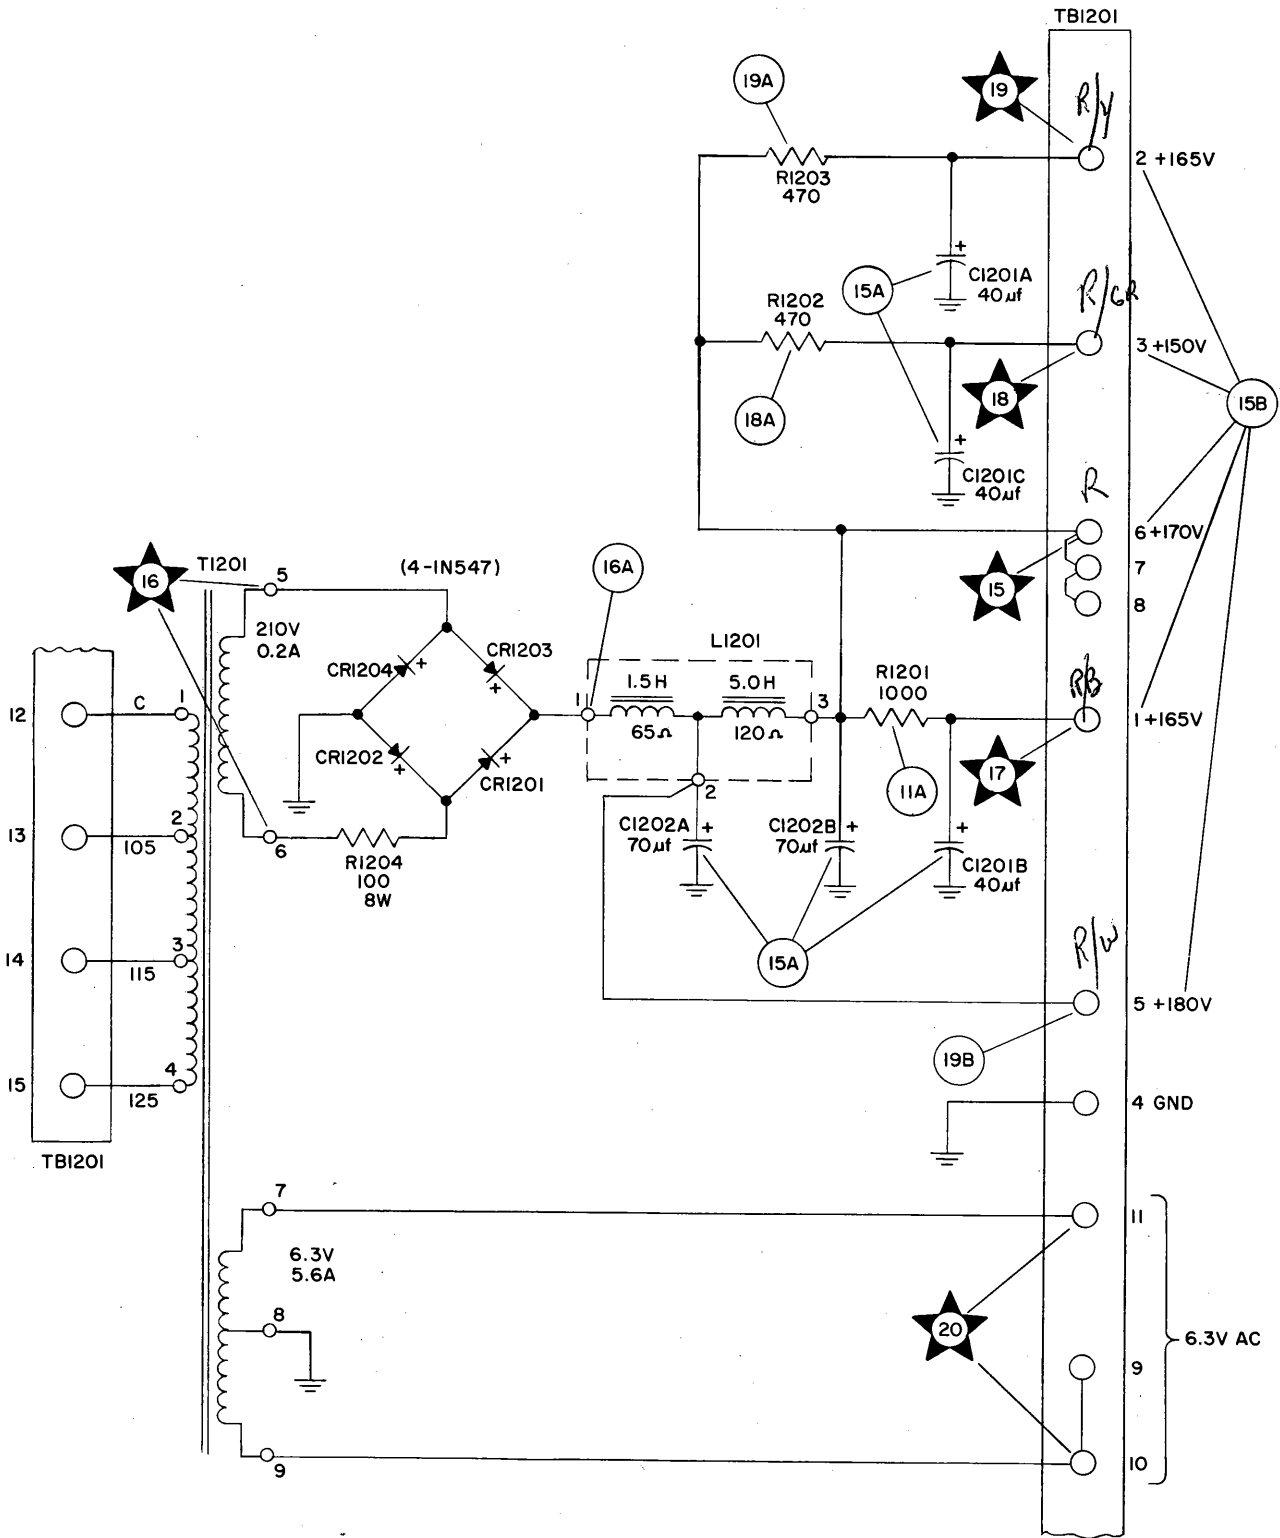
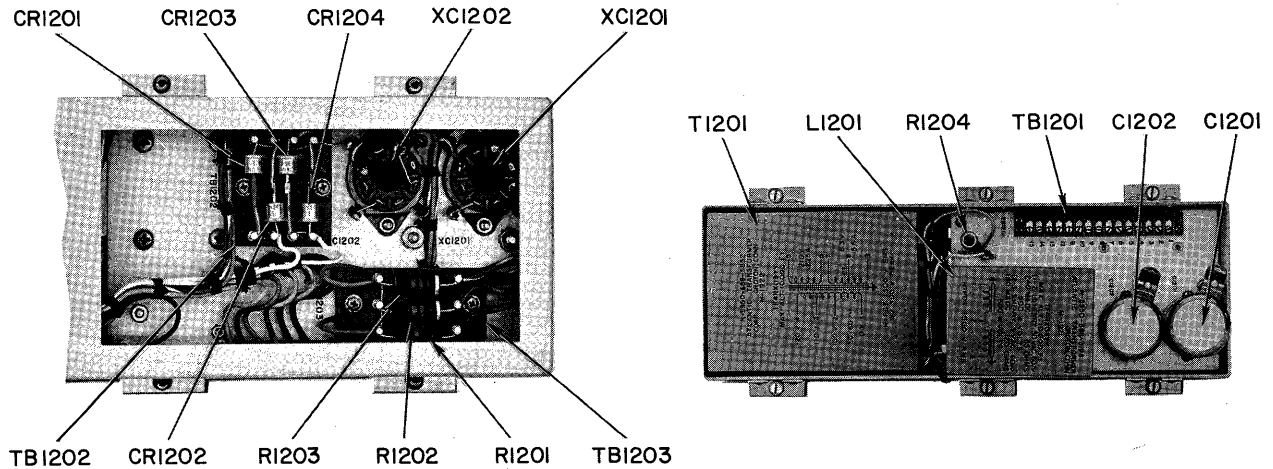

Figure 5-5. Demodulator Power Supply, Functional Schematic Diagram
Figure 5-6. Demodulator Power Supply, Location of Parts
*a. FUNCTION.*—The demodulator power supply provides plate and filament voltages for the operation of the AM, USB, and LSB detector-amplifier circuits of the receiver. Faulty operation of the power supply will cause erratic operation or will disable the receiver completely. Figure 5-5 is a functional schematic diagram; figure 5-6 shows the location of parts.
- (1) Cable connections at TB651, TB652, and TB1201
- (2) Clamping of plug-in capacitors C1201 and C1202 in their sockets.